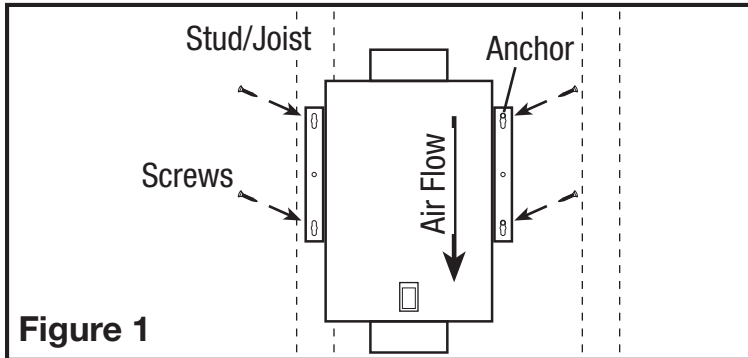

Figure 1
- Surface Mounting:** Locate at least one stud or joist. Place the fan in position so that the mounting bracket is centered on the stud or joist and make the location for the four (4) holes. Remove the fan and install properly rated wall/ceiling anchors for the holes that do not go directly into a joist or stud. Position fan in place and secure with screws (not included) (Figure 1).